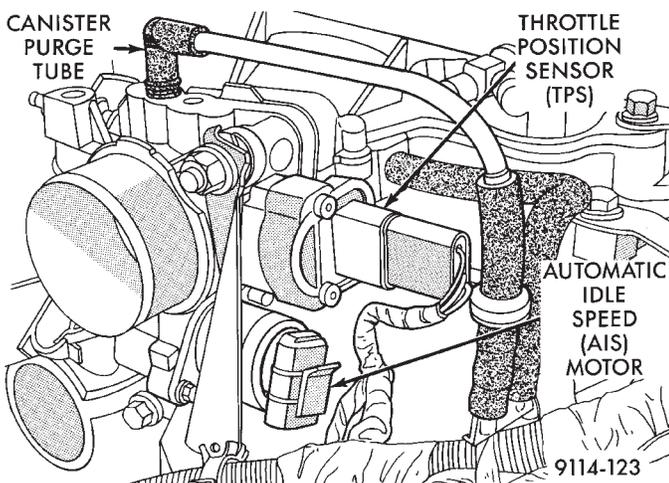
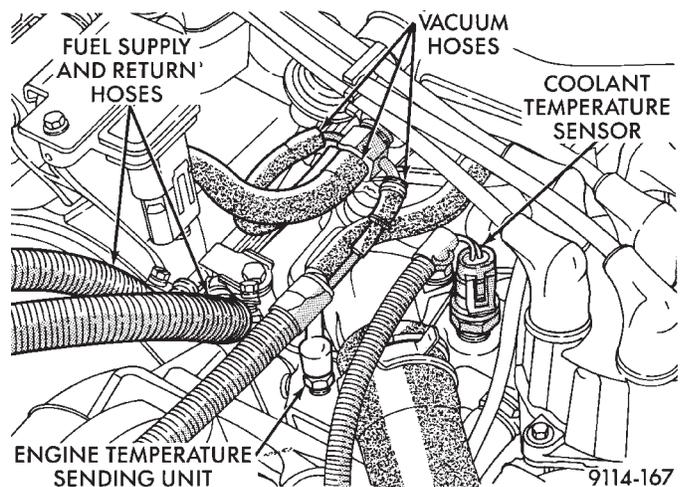

Fig. 5 Electrical and Vacuum Connections to Throttle Body
Fig. 7 Coolant Temperature Sensor Electrical Connections
- (13) Connect fuel line to fuel rail (Fig. 7). Torque hose clamps to 1 N•m (10 in. lbs.).
- (14) Connect vacuum harness to air intake plenum.
- (15) Connect and coolant temperature sensor electrical connector to sensor (Fig. 7).
- (16) Connect PCV and brake booster supply hose to intake plenum.
- (17) Connect automatic idle speed (AIS) motor and throttle position sensor (TPS) electrical connectors (Fig. 5).
- (18) Connect vacuum vapor harness to throttle body (Fig. 5).